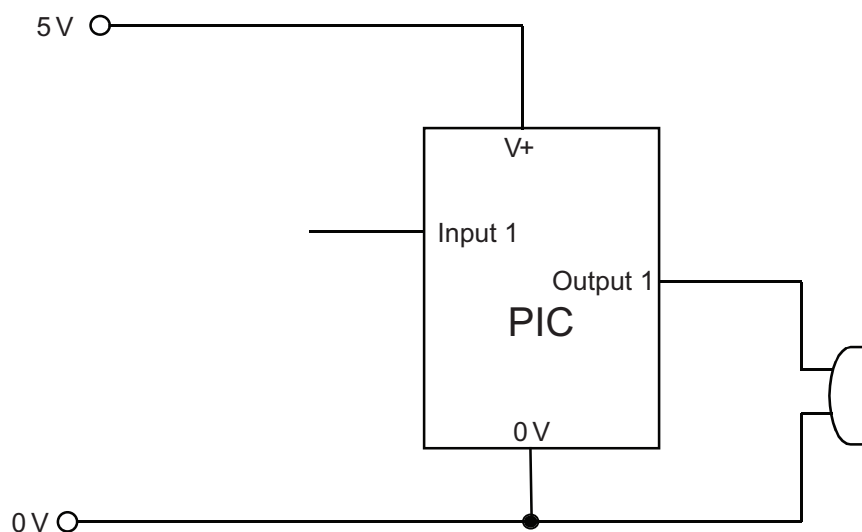

Fig. 1(c)
- (i) With the aid of a circuit diagram explain how a microswitch could be used in conjunction with a resistor to provide a digital input to the PIC shown in Fig. 1(c). [4]